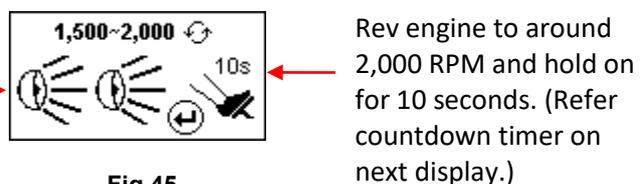

Fig.45
8. Press  key to proceed and the display will change to as Fig. 45 below: